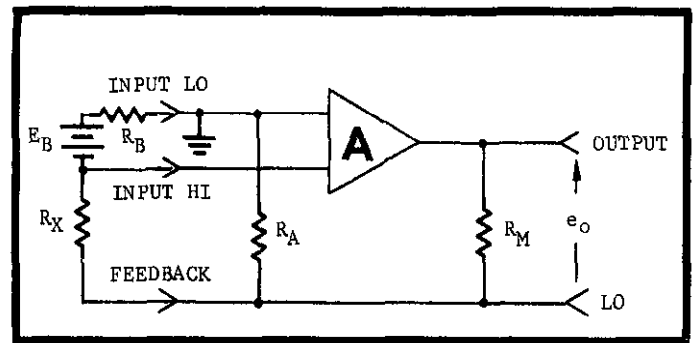

FIGURE 9. Guarded Measurement.
b.) Guarded Measurements. The Model 640 can be used for guarded resistance measurements using the FEEDBACK Terminal and Input HI connections as shown in Figure 9. Since E_B and R_B develop a known current I_B , then the electrometer will indicate the voltage developed across R_x (unknown resistance).